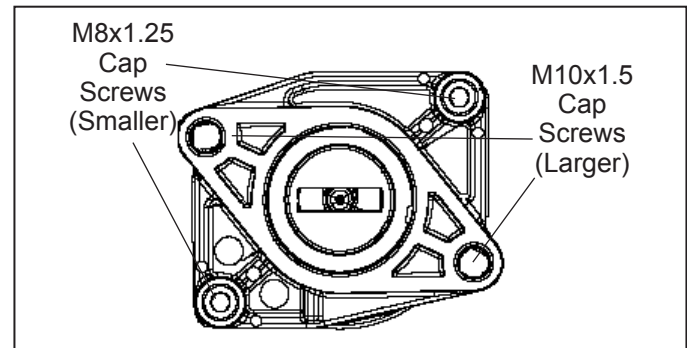

Figure 4 – Rear End Cover Attachment Bolts
Note: There are two M8x1.25 cap screws used to retain the end cover to the crankcase. There are also two larger M10x1.5 cap screws (not shown) that are used to retain the auxiliary drive unit (e.g. hydraulic pump) via the end cover and torqued into the crankcase. If the auxiliary drive unit has already been removed, these two cap screws are no longer present on the end cover. Refer to Figure 4 to see the location of the cap screws in the end cover.
1. Install the o-ring (G) on the rear end cover.
3. Install the two end cover cap screws. *Refer to Figure 4 to ensure that the two cap screws are installed in the proper crankcase bolt holes.* "Snug" the screws then tighten between 195 and 212 in-lbs (22-24 Nm).